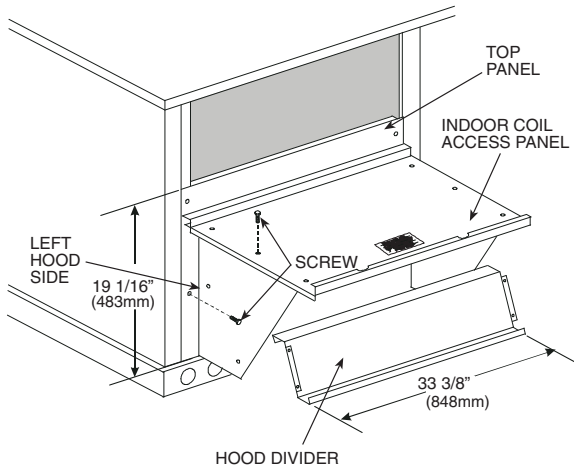

Fig. 15 — Economizer Hood Construction
2. Swing out indoor coil access panel and insert the hood sides under the panel (hood top). Use the screws provided to attach the hood sides to the hood top. Use screws provided to attach the hood sides to the unit. See Fig. 15.
4. Insert the hood divider between the hood sides. See Fig. 15 and 16. Secure hood divider with 2 screws on each hood side. The hood divider is also used as the bottom filter rack for the aluminum filter.